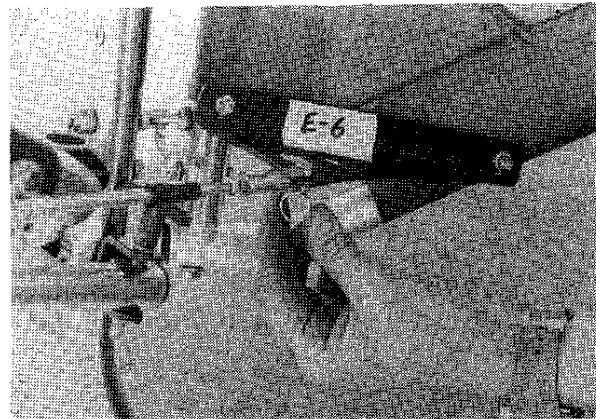

Figure 2.54
61. Attach fork to rudder horn using 3/16" clevis pin and safety ring. Be sure pin points downward. **Figure 2.54**